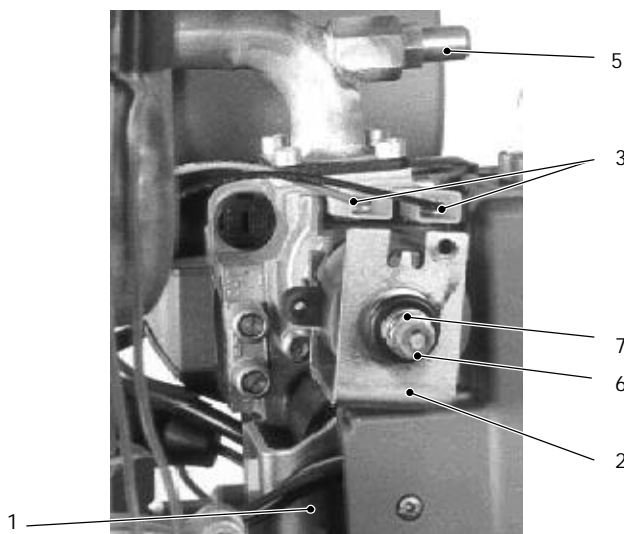

fig. 58 (view from the left side of the boiler)
- 2 Disconnect one of the two connectors "3" (fig. 58) of the modulating operator and measure the elec-